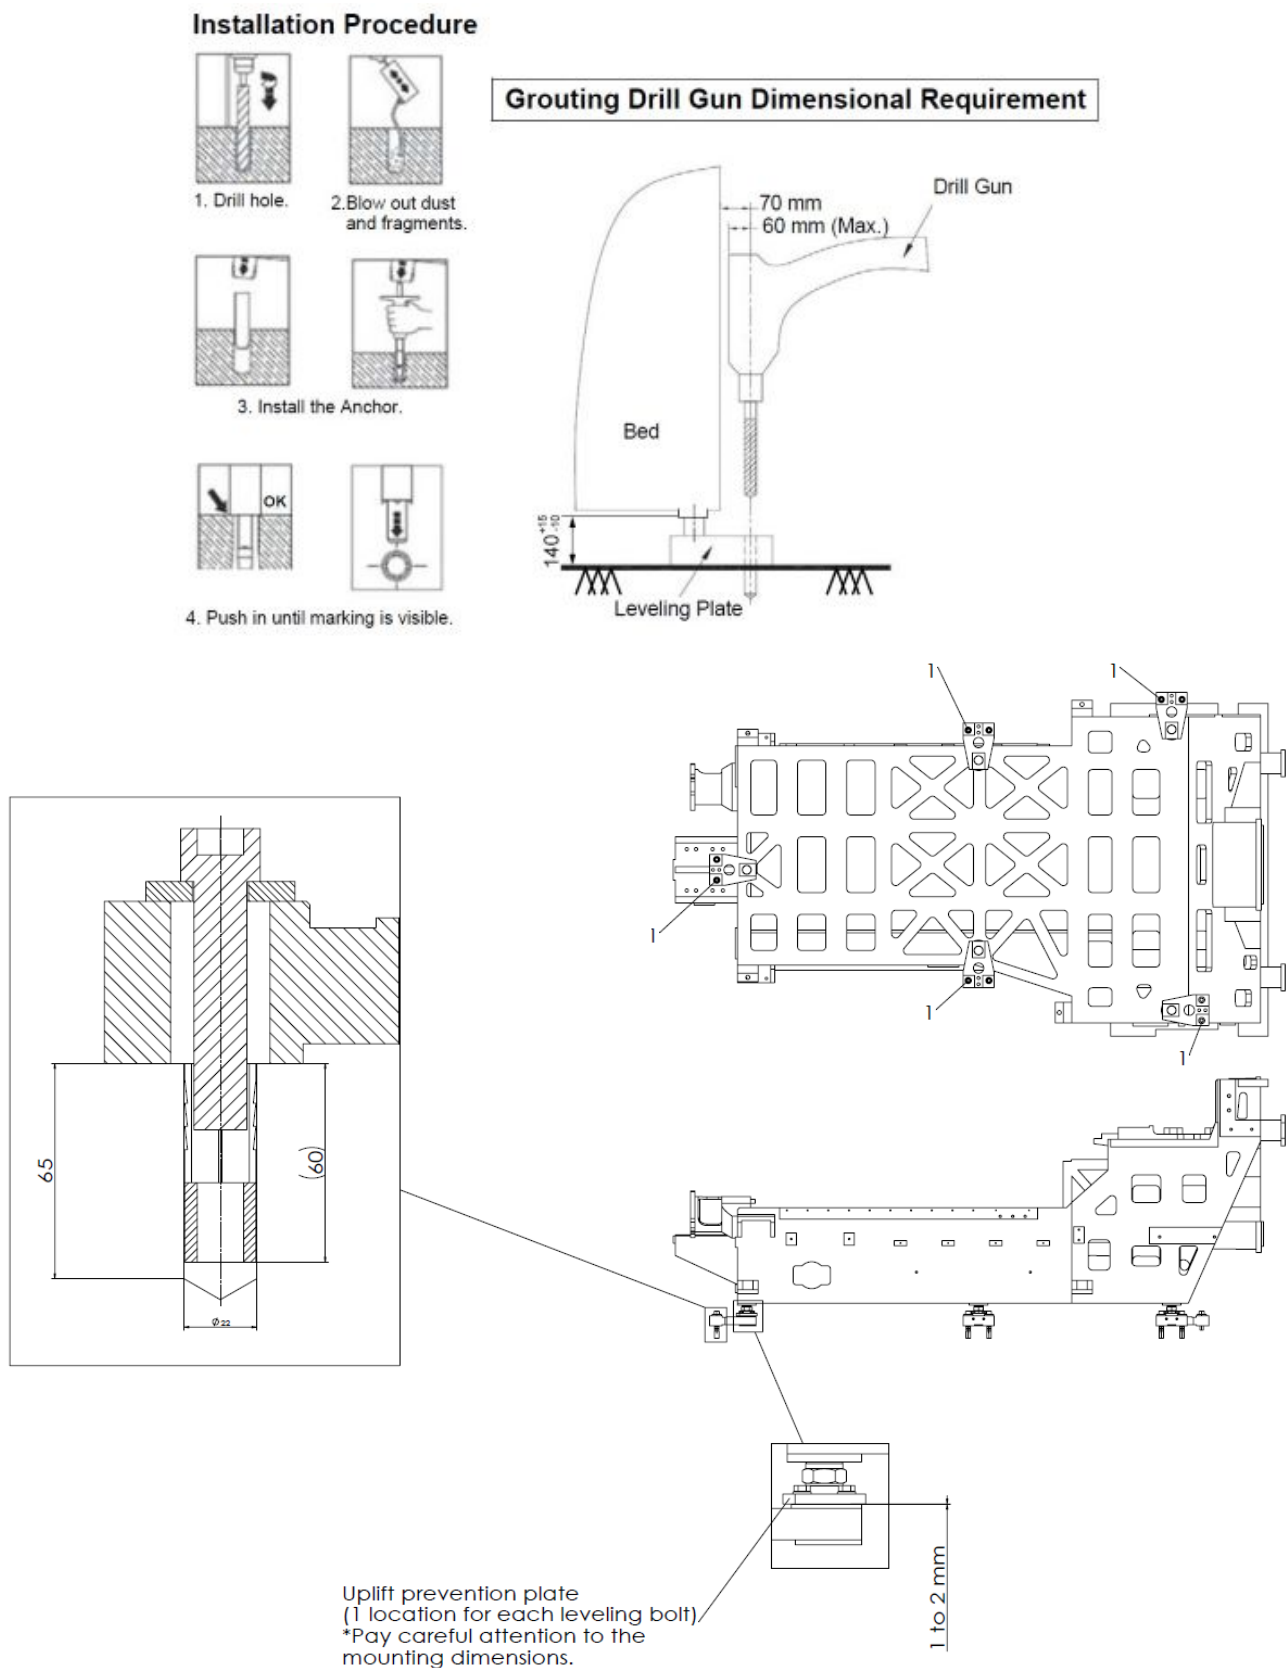

Figure 1.1 Anchor Locations
- 3) Install the anchor as shown in installation procedure. (Refer to Figure 1.1 )
Refer to Figure 1.1  for anchor locations.